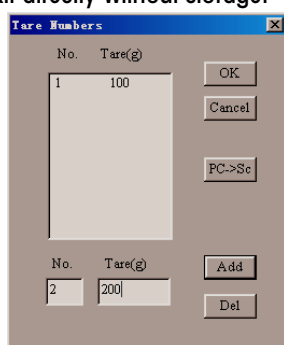

Fig. 6-14
- ☞ Here will show TARE dialog box as fig. 6-14.